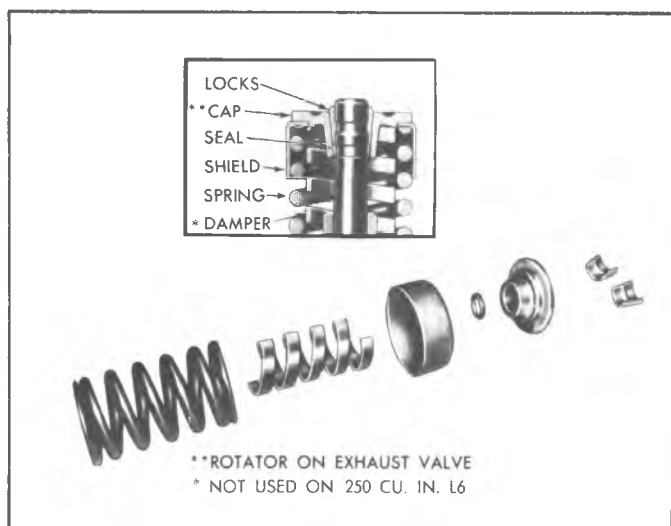

Fig. 25—Valve Spring Installation (In-Line and "Small V8")
- a. Set the valve spring shim, valve spring (with damper if used), valve shield and valve cap or rotator in place (fig. 25).